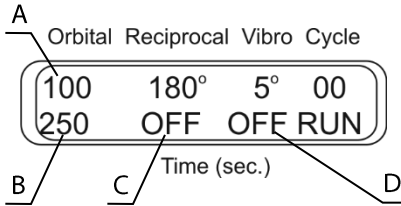

Fig. 4
6.9.1. **3D orbital** (fig. 4). Most popular kind of motion.